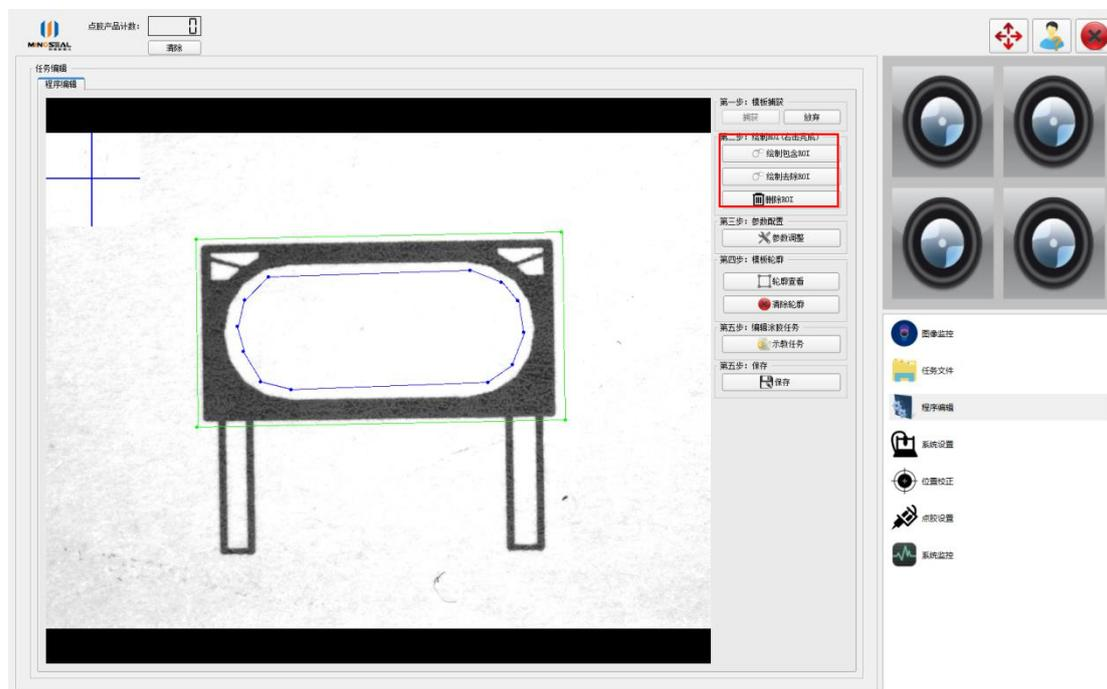

Figure 25 ROI drawing
3) if the drawing ROI is not ideal, click the 'delete' button to delete the ROI, and draw it again; the operation interface is as shown in figure 25.